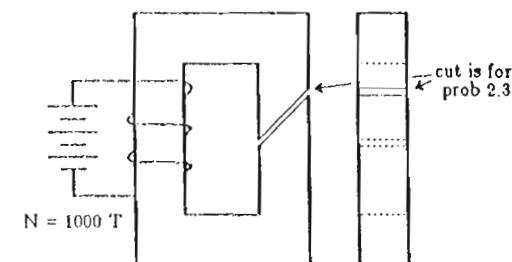

Figure 2.11 Magnetic circuit for Problems 2.1-2.4.
2.1 A coil of 1000 turns is wound on the laminated core of "0.47 mm cold-rolled motor armature steel" shown in Figure 2.11 having a square cross-section of 50 mm on each side (50 mm by 50 mm) and a mean length of 0.5 m. The stacking factor is 0.90. What coil current is required to produce a core flux of 3×10^{-3} Wb? Do not include the air gap in this problem.